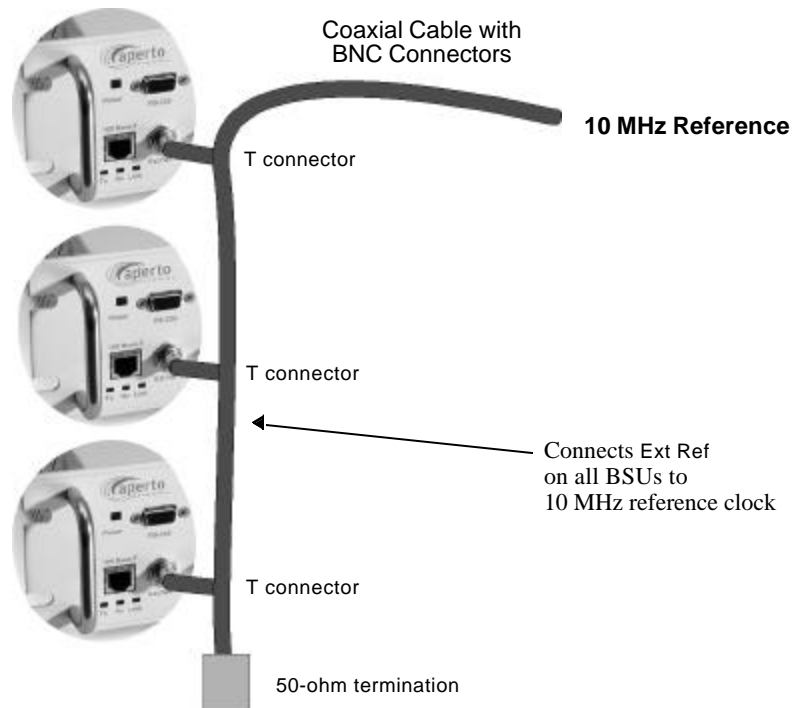

Figure4-5 Connecting an External Reference Clock
3. Connect the cable to the reference source and to the **Ext Ref** connector on each BSU, as shown in *Figure4-5*.